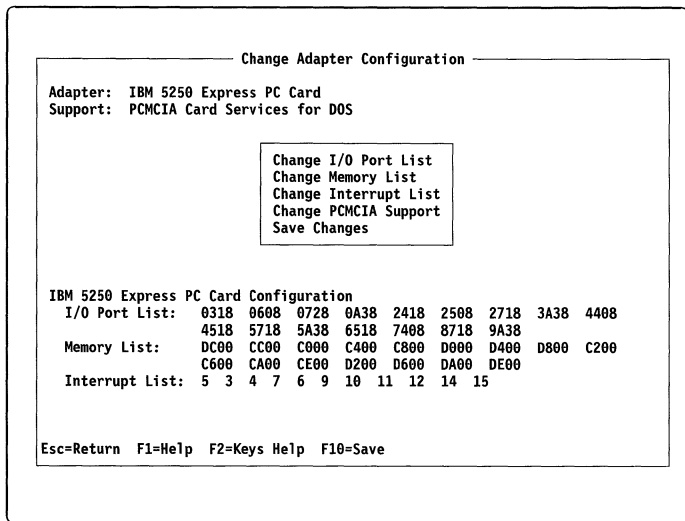

Figure 24. Change Adapter Configuration Screen
1. From the Change Adapter Configuration screen, similar to the one shown in Figure 24, select the appropriate option.